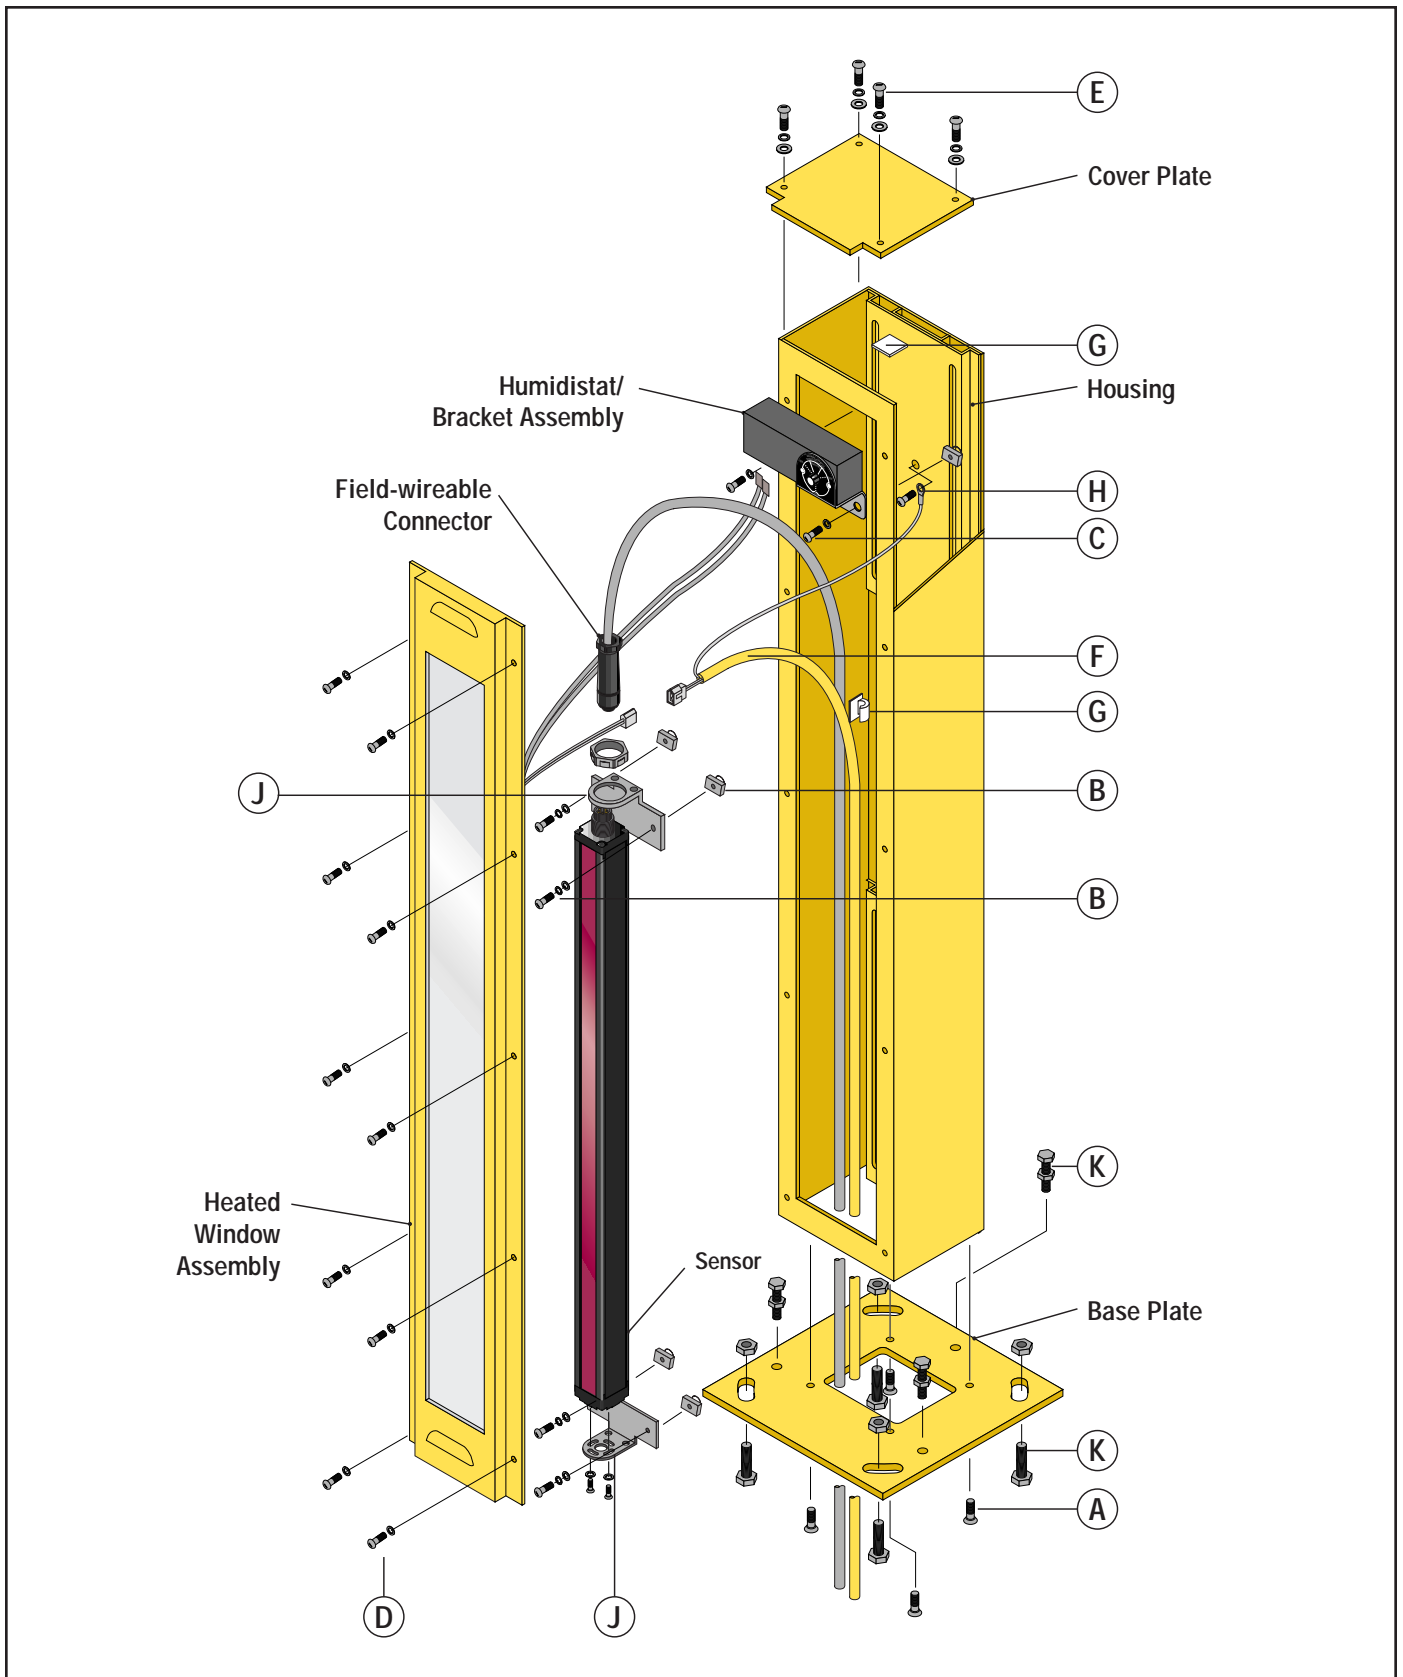

Figure 6. Assembly components
- 2) Mount the base plate to the housing (Figure 6) with 4 stainless steel flat head screws (1/4" - 20 x 3/4", included).
Transformer Power Supplies convert 115V ac to the voltage required by the heated window and humidistat. See Figure 6 and page 7 for more information.
- 1) Assemble the brackets supplied with the Heated Enclosure to each end of the sensor (Figure 6), using 2 hex head screws with integral compression washer per bracket (M4 x 10 – non QD end; M30 Nut and washer – QD end, supplied with sensors). (Although both screws and brackets are supplied with each MINI-ARRAY sensor, use only the brackets packed with the Heated Enclosure.)
- 1) Attach the second cable clip to the inside of the cover plate, as shown in Figure 6. Assemble the cover plate to the housing using the supplied #8 hardware. Attach the heater supply cable to the cable clip on the cover plate.